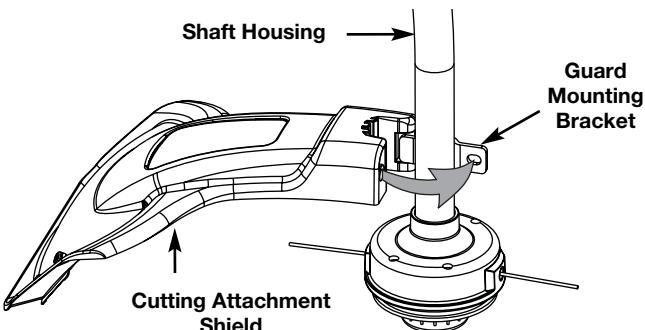

Fig. 17
1. Place the cutting attachment shield onto the shaft housing. Be sure the guard mounting bracket slides into the slot on the edge of the cutting shield. Rotate the shield into place, counterclockwise (Fig. 17). The holes in the guard mounting bracket and cutting attachment shield will line up.